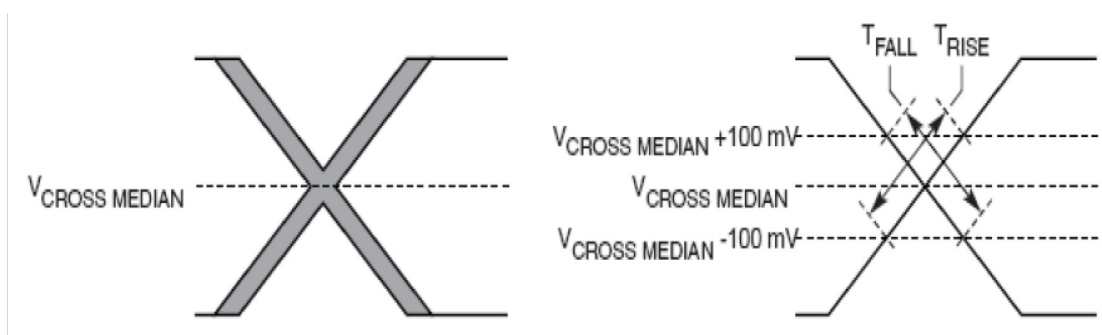

Figure 43. Single-Ended Measurement Points for Rise and Fall Time Matching
- Matching applies to rising edge for SD_REF_CLKn and falling edge rate for SD_REF_CLKn_B. It is measured using a 200 mV window centered on the median cross point where SD_REF_CLKn rising meets SD_REF_CLKn_B falling. The median cross point is used to calculate the voltage thresholds that the oscilloscope uses for the edge rate calculations. The rising edge rate of SD_RF_CLKn should be compared to the falling edge rate of SD_REF_CLKn_B; the maximum allowed difference should not exceed 20% of the slowest edge rate. See Figure 43.